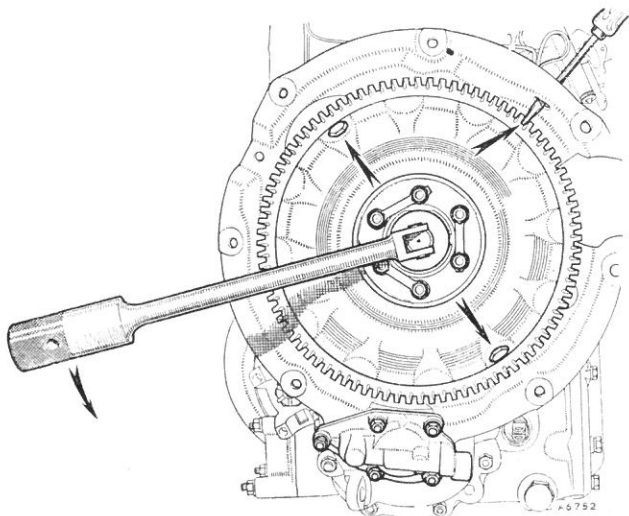

Fig. Aa.6
- (3) Remove the starter motor and converter cover.
- (4) Drain the transmission.
- (5) Knock back the lock washer on the converter centre bolt. Hold the converter from turning with a suitable screwdriver inserted through the hole in the converter housing. Using Service tool 18G 587, remove the centre bolt (Fig. Aa.6).